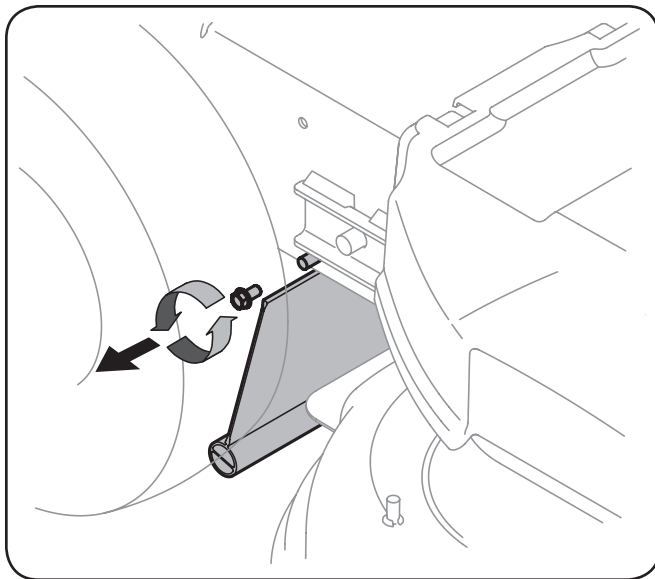

Figure 7-7
- Remove the screw which secures the trail shield to the right side of the mower. See Fig. 7-7.